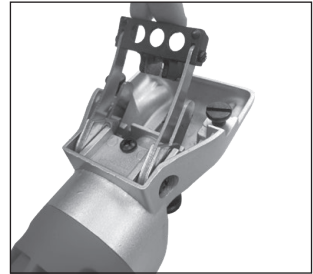

Fig. 6
3. To replace the swing springs, lift the clipper blade holder and remove the screws on the swing springs (Fig. 6).